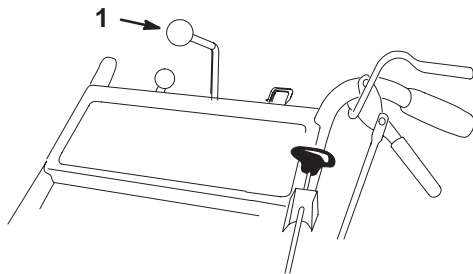

Figure 10
1. Move the speed control lever fully forward (Fig. 10).